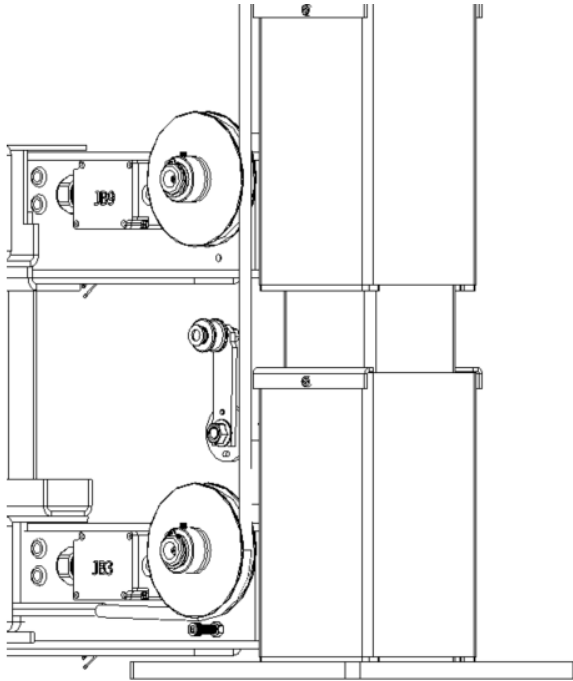
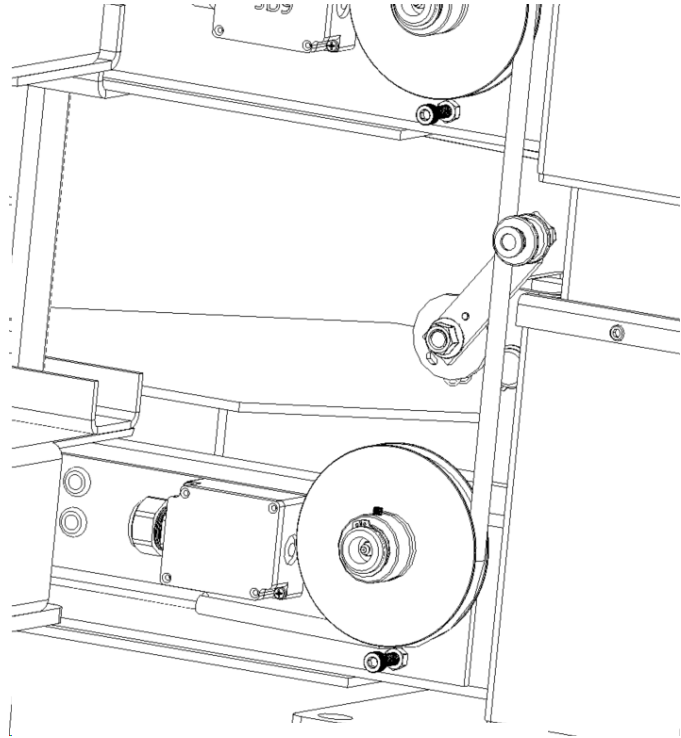
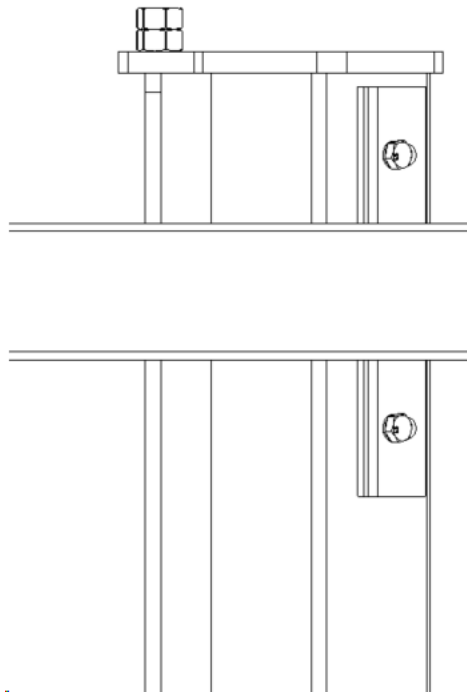

Figure 5.8 Wire rope 1 going up leg 1.
Figure 5.8.1 Proper Routing of wire rope around secondary lock
Figure 5.9 Wire rope 1 mounted to top cap 1.
Now that we have a little more explanation on the pulley/wire rope routings in the runway and have the wire ropes run around their respective pulleys it is now time to run the wire ropes up to top caps. You will need to locate (8) M8x1.25x35mm socket head bolts and (8) M8x1.25 nuts, these should have been threaded into the crossmembers during shipping, if not locate the hardware box. These bolts and nuts will act as keepers to prevent the wire rope from coming off the pulley. You will also need (8) M20x2.5 Nut, these nuts are for securing the wire rope to the top cap. Refer to figure 5.8 for a visual representation of wire rope 1 going up leg 1 and around the 2 pulleys on the crossmembers. Also, the wire rope needs to be routed around the secondary lock as shown in figure 5.8.1. The wire rope should be in front of the smaller pulley for the secondary lock. Refer to figure 5.9 for a visual representation of wire rope 1 mounted to the top cap of leg 1. Once you have the cable around the 2 pulleys, run it to the top of the leg and thread 2 nuts on to the threaded section, do not fully tighten the top nut as you will need to adjust them later. Do the same thing for the remaining 3 cables.